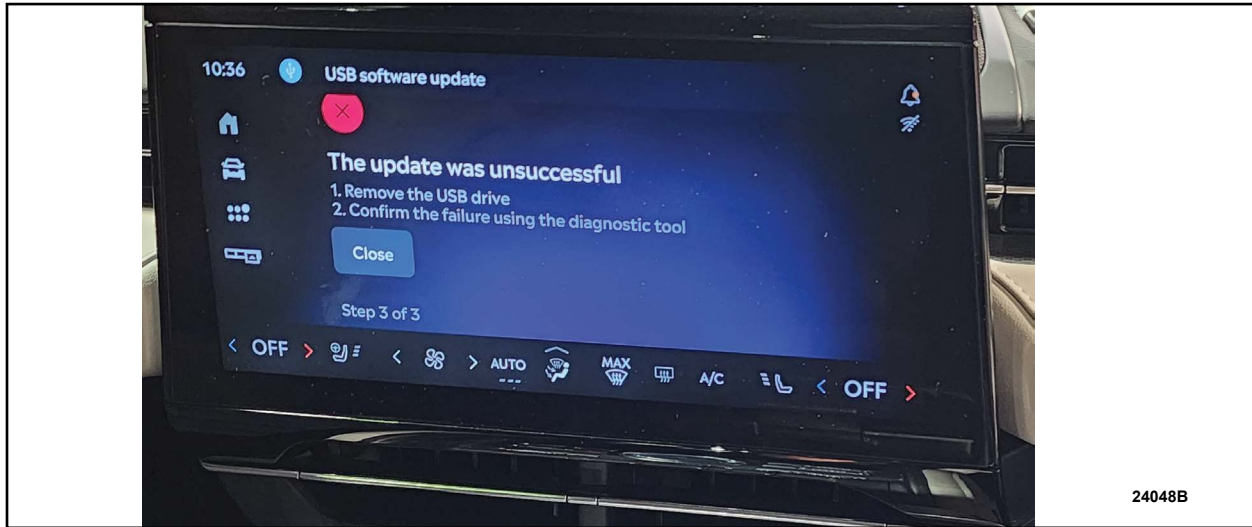

FIGURE 4
28. When the USB update has finished the successful screen will NOT appear. There will be an unsuccessful screen. **Make sure to continue with the Field Service Action (FSA).** See Figure 4.